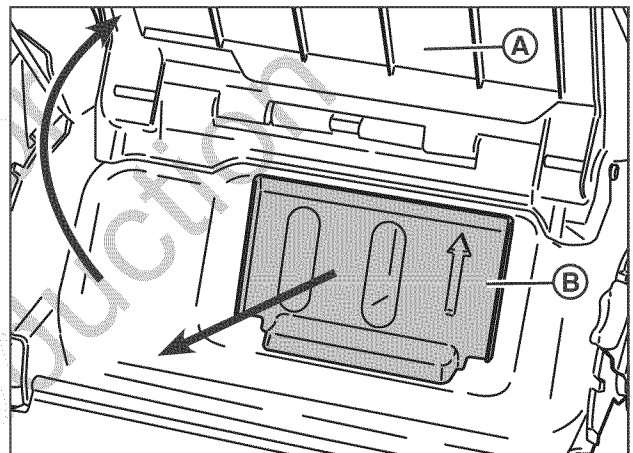

Figure 10: Removing the mulching plug
1. Raise the rear discharge door (A, Figure 10).
2. Remove the mulching plug (B) from the rear discharge chute.